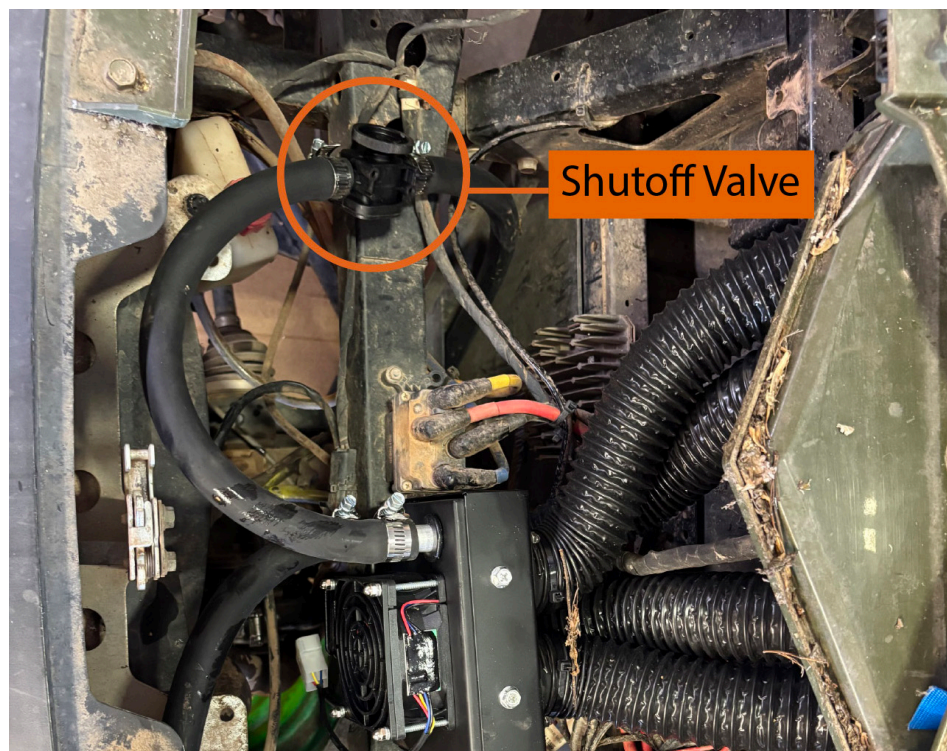

FIGURE 11
36. Locate a spot on this line for the shutoff valve. FIGURE 11